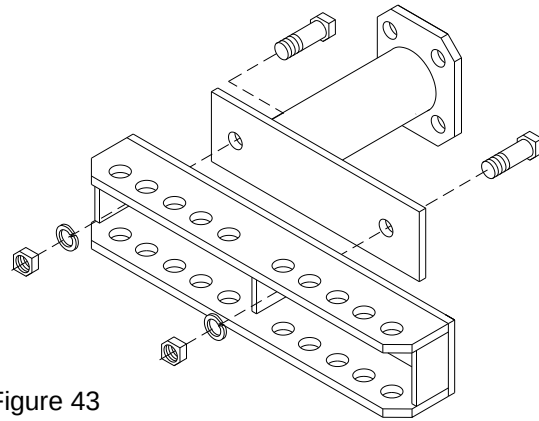

Figure 43
Massey Ferguson eight (8) cylinder tractor models 1150 and 1155 require a special adaptor bracket (03-082-165) as shown in Figure 43. Models 2745 and 2805 require a very similar adaptor bracket (03-082-166). The short tractor mounting bracket (03-082-167) is then bolted to the adaptor brackets as shown.